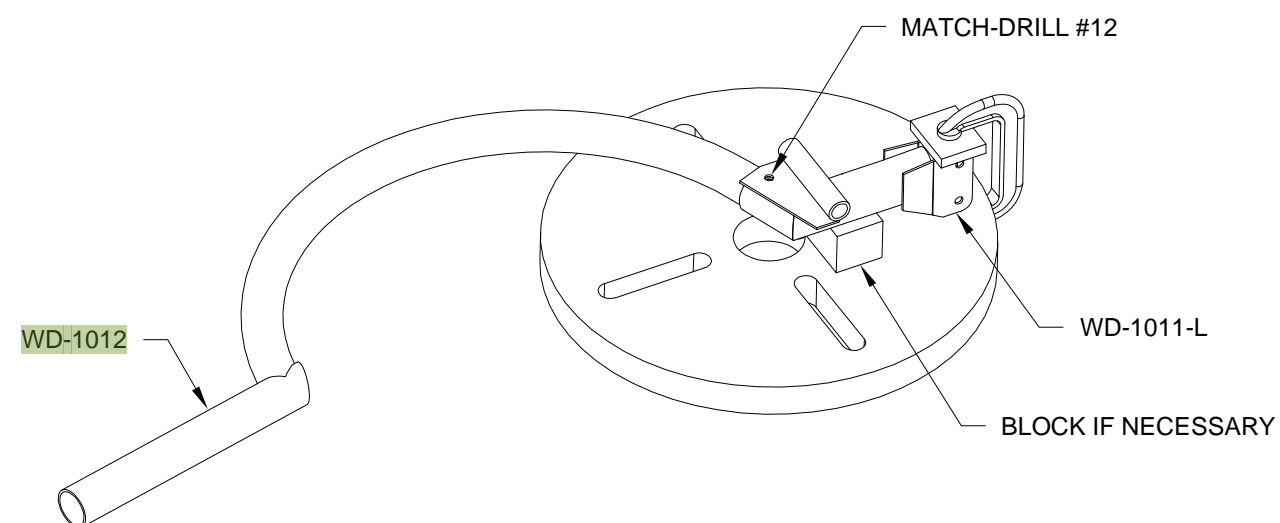

FIGURE 1: MATCH-DRILL CONTROL STICKS WITH CONTROL STICK BASES
Step 1: Clamp the WD-1011-L Left Control Stick Base to a drill press table as shown in Figure 1. Insert a WD-1012 Control Stick into the control stick base as far as it will go. Rotate the control stick until it is planar with the surface of the table. Match-Drill #12 through the assembly using the hole in the control stick base as a guide. Support the control stick base with a block if necessary. Disassemble the parts and deburr. Repeat this step for the WD-1011-R Right Control Stick Base and the other control stick.